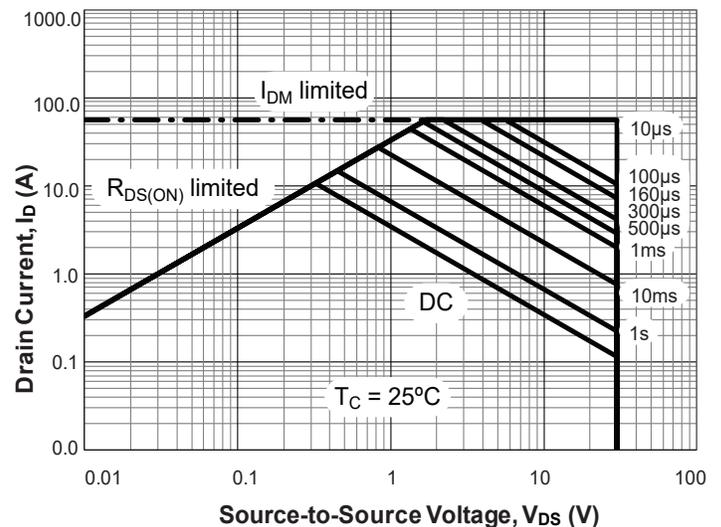

Figure 26. Safe Operating Area (SOA) curves for Sink power switch
Referring to the SOA curve in Figure 26, the maximum power allowed for 2ms (DC) is 50W ($2.5A \times 20V$ or $5A \times 10V$). The AOZ1380DI power switch is robust enough to drive a large output capacitance with load in a reasonable soft start time.